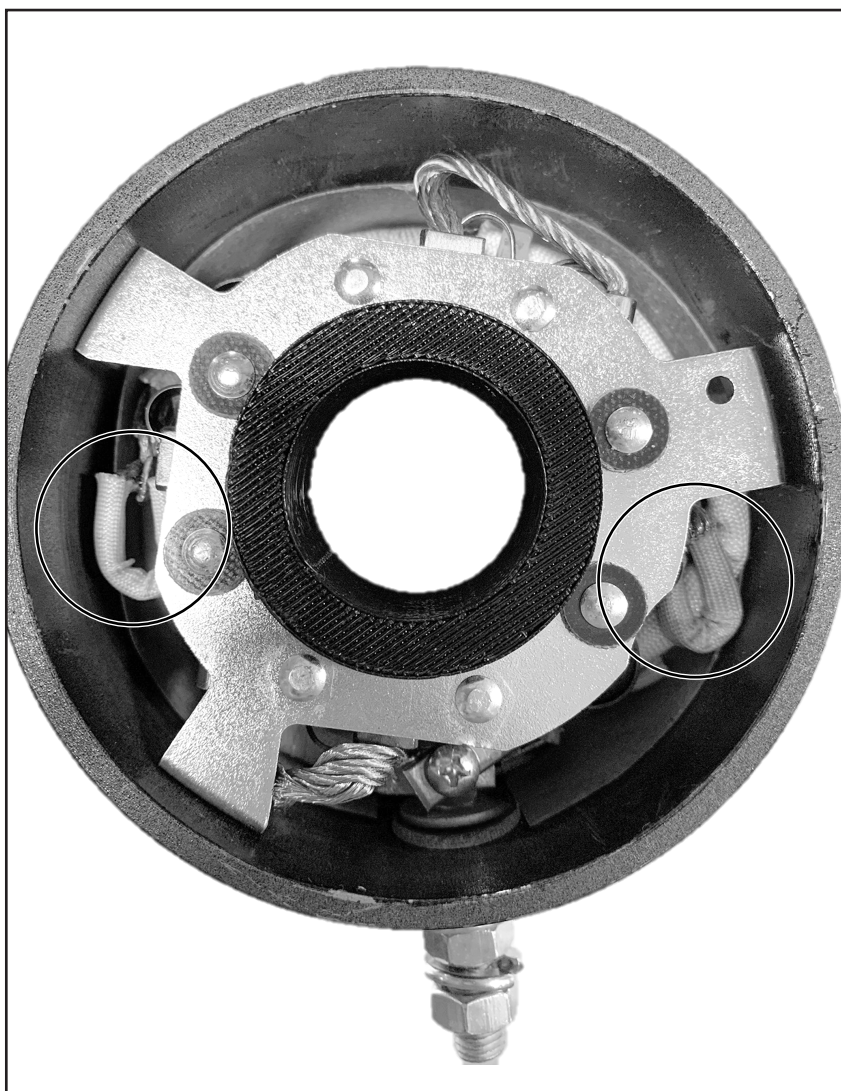

Figure 6-9 - Brush Lead Clearance
- (9) Apply a thin coat of Loctite® 242 to threads of the brush holder screws (4).
- (10) Position the brush holder assembly (5) into the starter housing and install three brush holder screws (4). Torque brush holder screws (4) 20-30 lbf · in (2.26 - 3.39 N · m).
- (11) Inspect the field coil brush leads (6) for clearance. Ensure unsheathed areas of leads are not in contact with the starter housing or brush holder assembly (5). See Fig. 6-9.